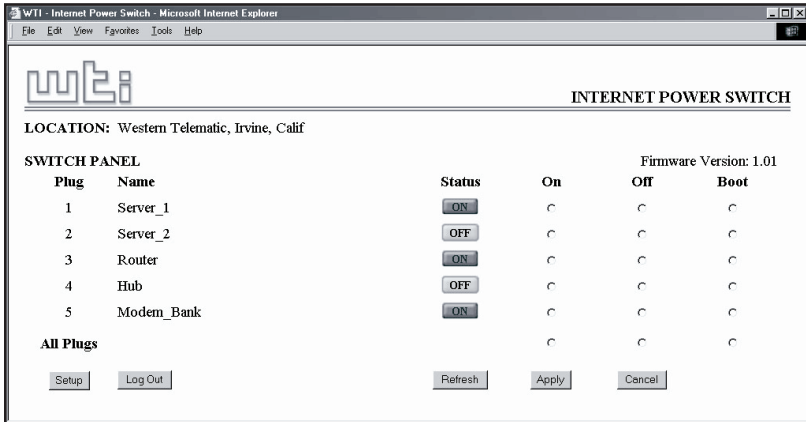

Figure 6.1: Plug Status Menu - Web Browser Interface
When you log on to the IPS command mode, using the Web Browser Interface, the first screen that is displayed after login is the Plug Status Screen (or "Switch Panel".) The Plug Status Screen (Figure 6.1) lists the current status of the IPS-15's Switched Outlet(s) and provides a series of "radio buttons" which are used to control On/Off/Boot switching of the outlet(s).
2. When the Plug Status Screen (Figure 6.1) appears, note that the screen includes a status field and On/Off/Boot controls for every satellite unit that was connected at the time that the master unit was powered up.